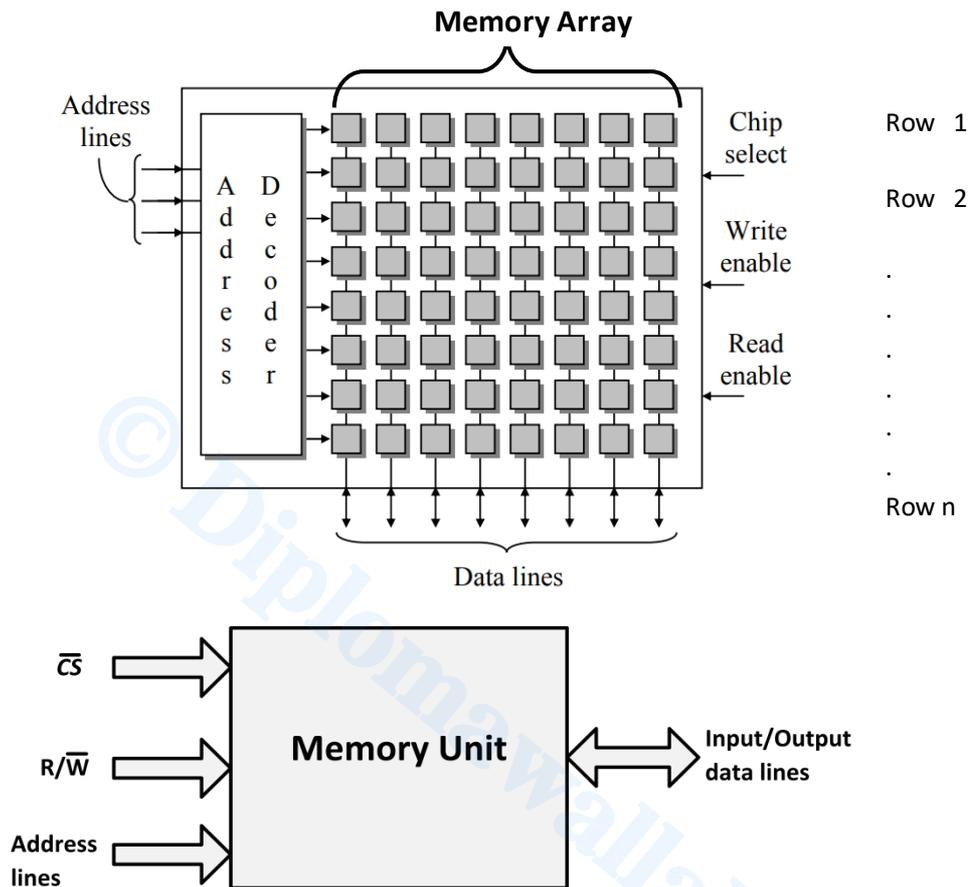
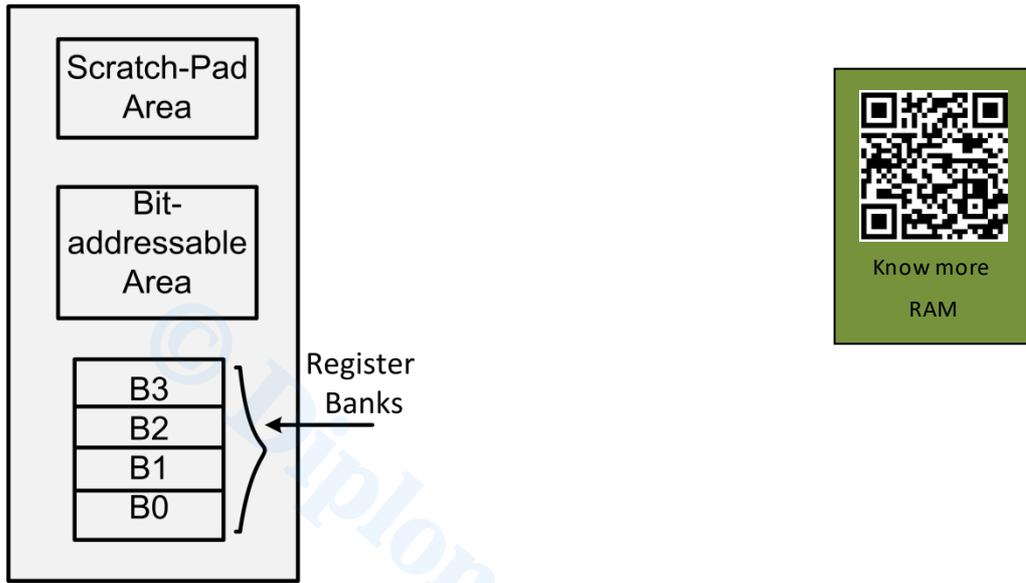

Fig. 5.4: General Organization of Memory Device.
Fig. 5.5: Internal organization of RAM.
The **general organization** of a memory device is shown in Fig. 5.4. An *address decoder* selects any one row of memory array to be written or read from. For example, if  $(101)_2 = (5)_{10}$  is placed on the address lines, the fifth row of the memory will be selected and connected to the data lines (considering first row is the *Row 1*).
Fig. 5.4 can also be represented as general memory organisation block diagram as shown in Fig. 5.5.